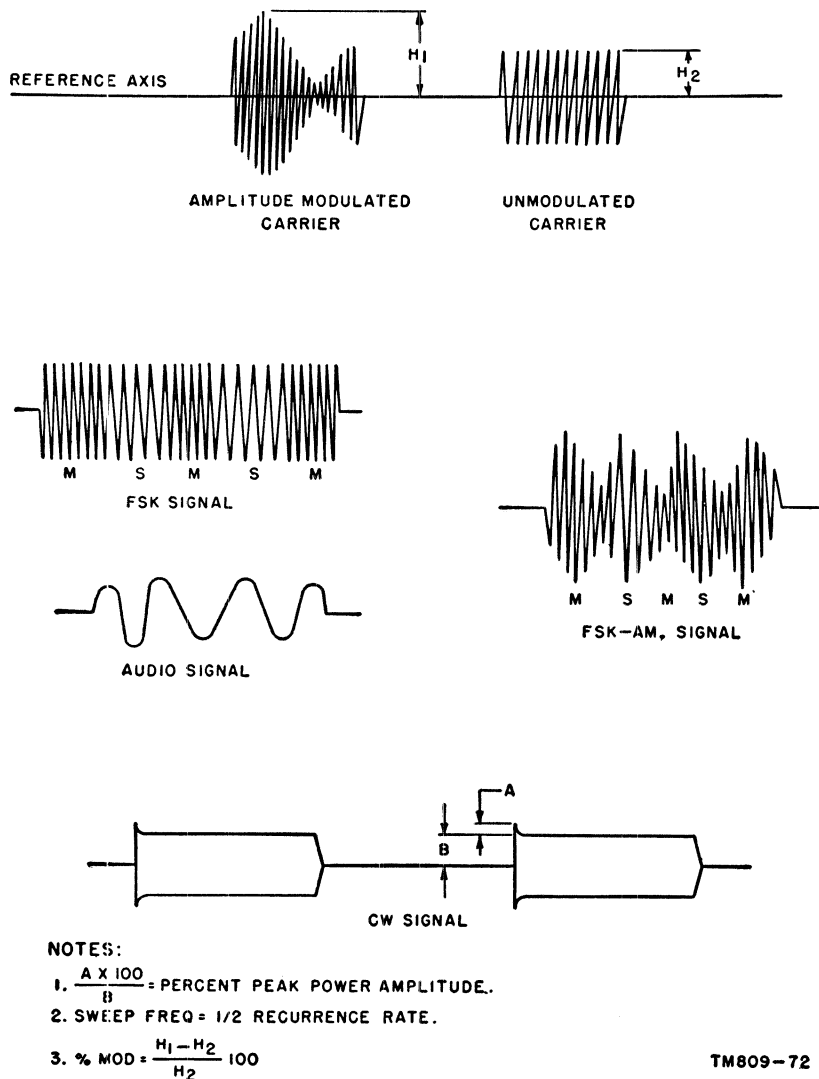

Figure 88. Wave forms.
*f.* Adjust the 600 OHM LINE GAIN control for 100 percent modulation, as observed on the oscilloscope (fig. 88). The EXCITATION meter should read 8 ma (min) for P A GRID X2 and 70 ma (max) or 20 ma (min) for INT AMP PLATE X10.
(fig. 88)
- (1) With the audio oscillator connected for 600-ohm line operation (CARBON MIKE GAIN control turned down), adjust it for a 1-ke audio signal.
- (2) Adjust the 600 OHM LINE GAIN control for 40 percent modulation. This is done by observing the modulated wave on the oscilloscope for a height of 1.4 times the height of the unmodulated wave. Refer to note 3 on figure 88 for use of the modulation formula.
- (3) While varying the input signal frequency, measure the input power to obtain 40 percent modulation. The input power should have the following values for the given frequencies:
- b.* Adjust the equipment for 95 percent modulation (fig. 88) with a 1-ke audio input.
*b.* Apply fsk signals (fig. 88) of a maximum of 5 volts to the FSK input receptacle (J16) at the following frequencies and control settings. Note the output power.